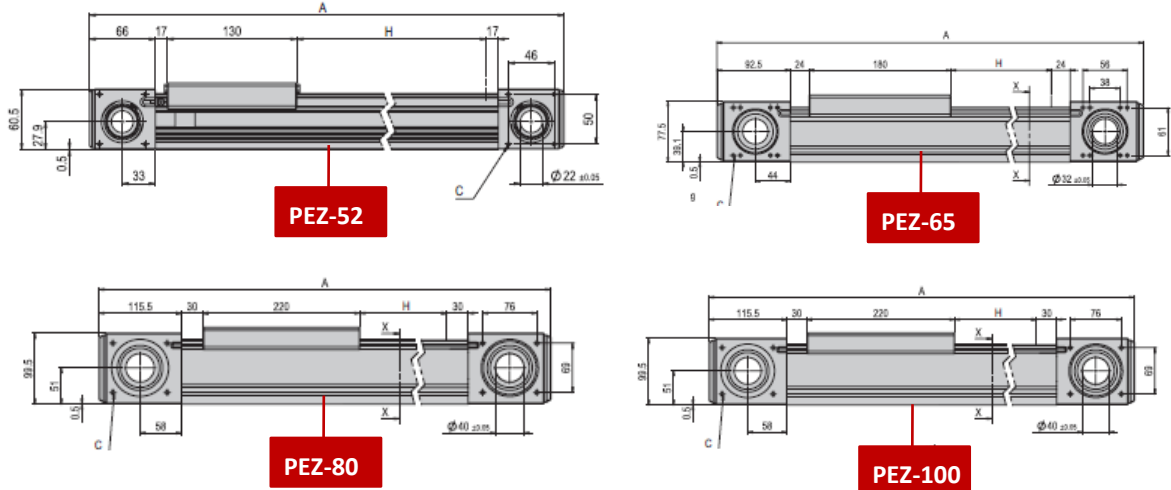

Fig. 16 Mounting of third-party gearboxes
- A matching adapter to the mounting surface (Fig. 16) incl. centring collar must be manufactured. The supporting surfaces are the same on the left and right.